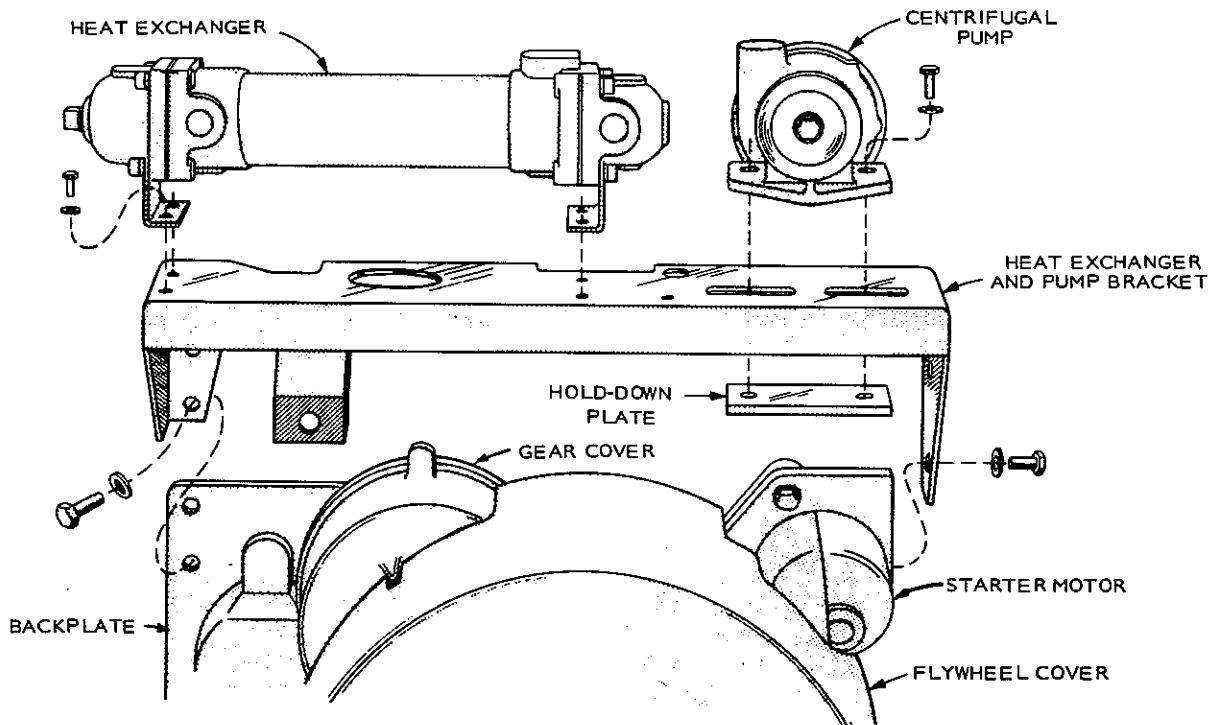

FIGURE 6-35. WATER PUMP MOUNTING BRACKET
10. Mount water pump bracket on engine with capscrews furnished (Figure 6-35). Use two 5/16-18 x 3/4-inch capscrews to secure to starter motor flange; one 5/16-18 x 1-inch to gear cover; and two 1/4-20 x 5/8-inch to upper left hand corner of backplate.
13. Mount centrifugal pump on bracket with the shaft pointing forward. Use hold-down plate furnished to secure pump (Figure 6-35).
3. Remove water line between water pump and engine block. Mount water pump bracket on engine with the capscrews furnished, Figure 6-35. Use two 5/16-18 x 3/4-inch capscrews to secure it to the starter motor flange; one 5/16-18 x 1-inch to the gear cover; and two 1/4-20 x 5/8-inch to secure it to the upper left hand corner of the backplate.